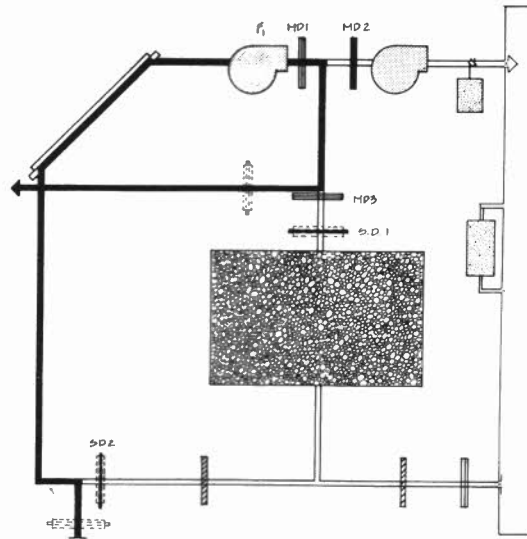

Figure 8.5 Power Venting Mode
**FIG. 8.5 POWER-VENTING:** The power venting mode is only used with the roof collector, to cool the collector in the summer and extend the life of the collector materials. This mode requires active participation of the home-owner twice a year to throw a switch and move the two slide dampers from winter to summer positions in the spring, and back to the winter positions in the fall. The switch will be located on the control board, and when thrown to the summer position will activate the extra